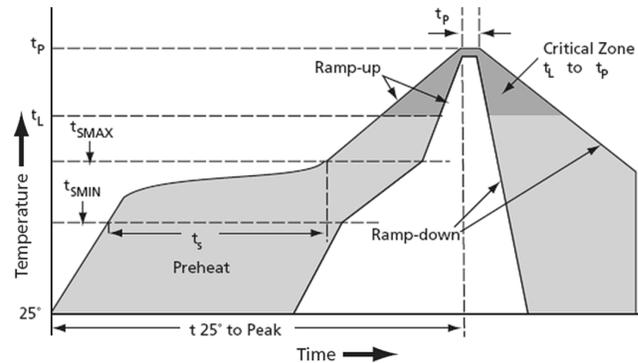

Figure 1. Recommended solder reflow profile.
- The recommended solder reflow profile is shown in Figure 1 below; refer to Table I for time and temperature requirements.